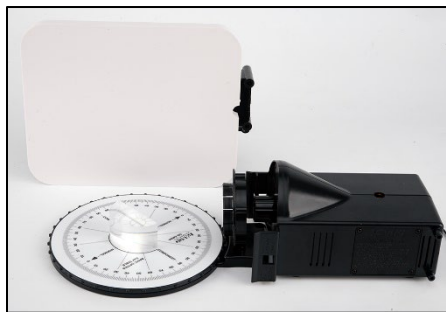

Figure 3a: Setup with Screen
5. Place the Basic Optics Screen on its side on the table next to the ray table at the 90-degree mark to act as a screen (see Figures 3a and 3b).